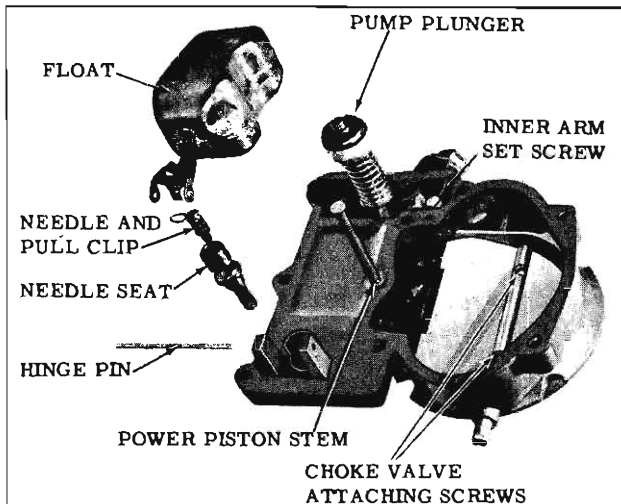

Fig. 4-40 Air Horn
1. Mount carburetor on Holding Fixture BT-30-14 or J-5923-B. (Fig. 4-40)
7. Invert the air horn and place on a flat surface, then remove the float hinge pin, float and needle assembly. (Fig. 4-40)